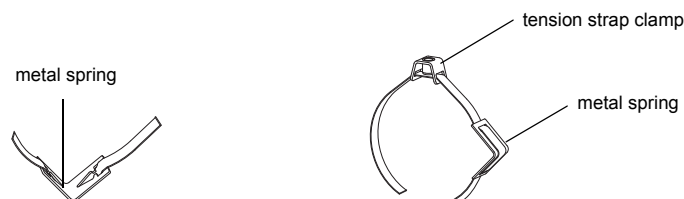

Fig. 8.37: Tension strap with metal spring and tension strap clamp
- Insert the long end of the tension strap into the tension strap clamp and the metal spring (see Fig. 8.37). It is not necessary to mount the metal spring: